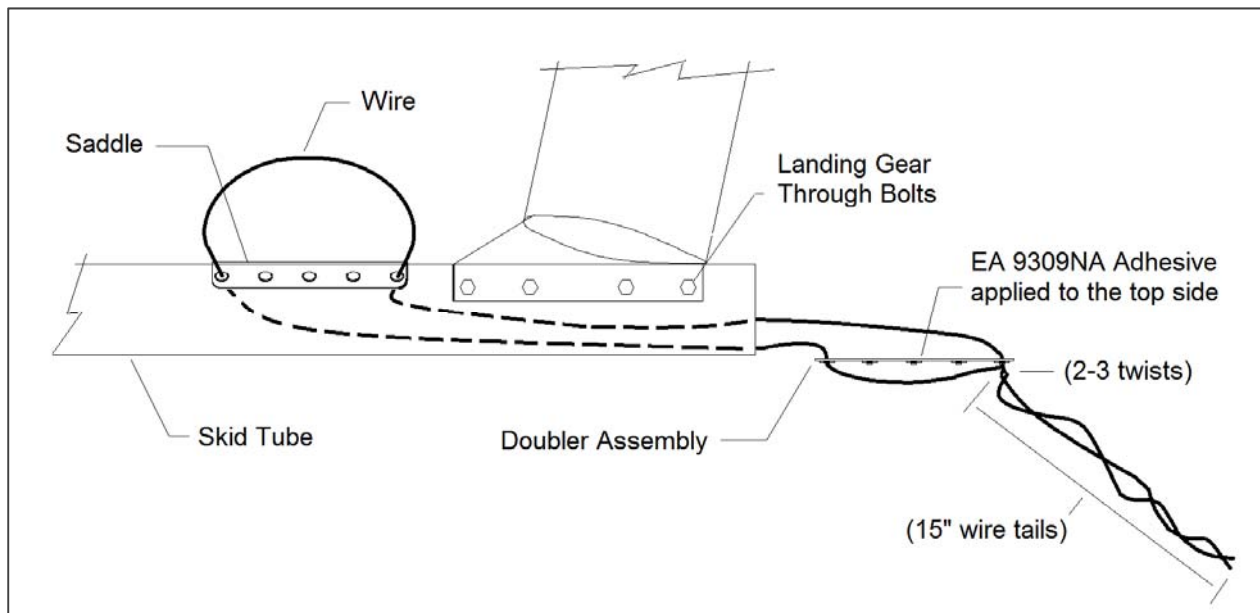

Figure 1. Wire Loop Routing for Doubler Assembly Installation
- 6.5 Obtain a 7 ft length of 0.025" or 0.032" wire and install the wire as shown in Figure 1.
- 6.6 Thread the wire through the doubler assembly and twist 2-3 times to close the loop; ensure a 15" minimum length from twist to the wire ends to ease removal of wire (Figure 1).